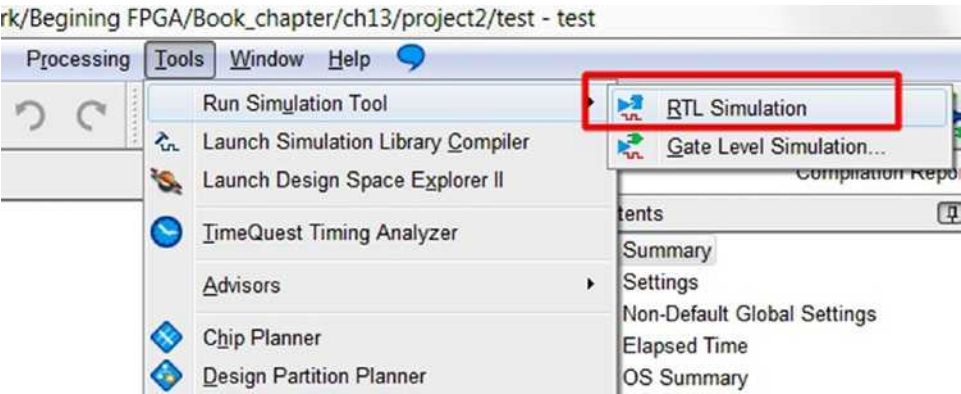

Figure 13-30. Start RTL simulation
- 10. Start simulation from Quartus Prime by clicking Tools ➤ Run Simulation tool ➤ RTL simulation (Figure 13-30). This should bring us to the ModelSim with the test bench as the top level of the simulation.